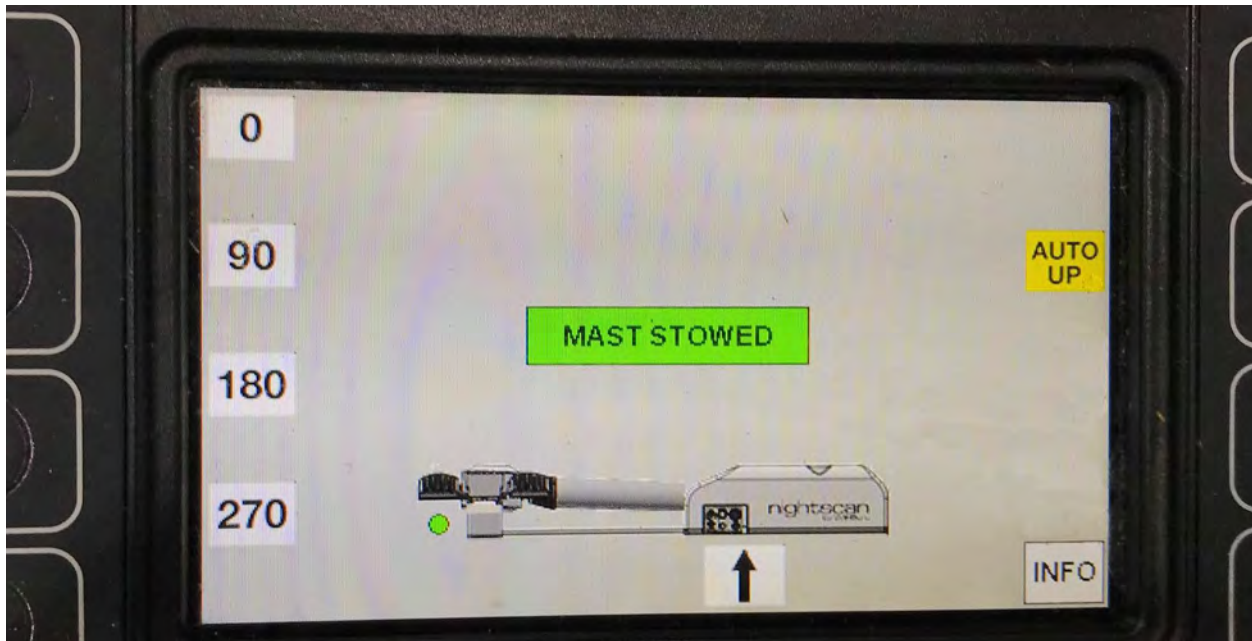

Figure 6-7 Auto Up to Quadrants Screen
- PMC: Press the "Auto Up" button. The display will show quadrant options (Figure 6-7). These options are different angles the light pan can be positioned. Select the desired quadrant. The mast will tilt to 90°, automatically turn on all the lights, pan the lights to the desired quadrant angle, and raise the mast.